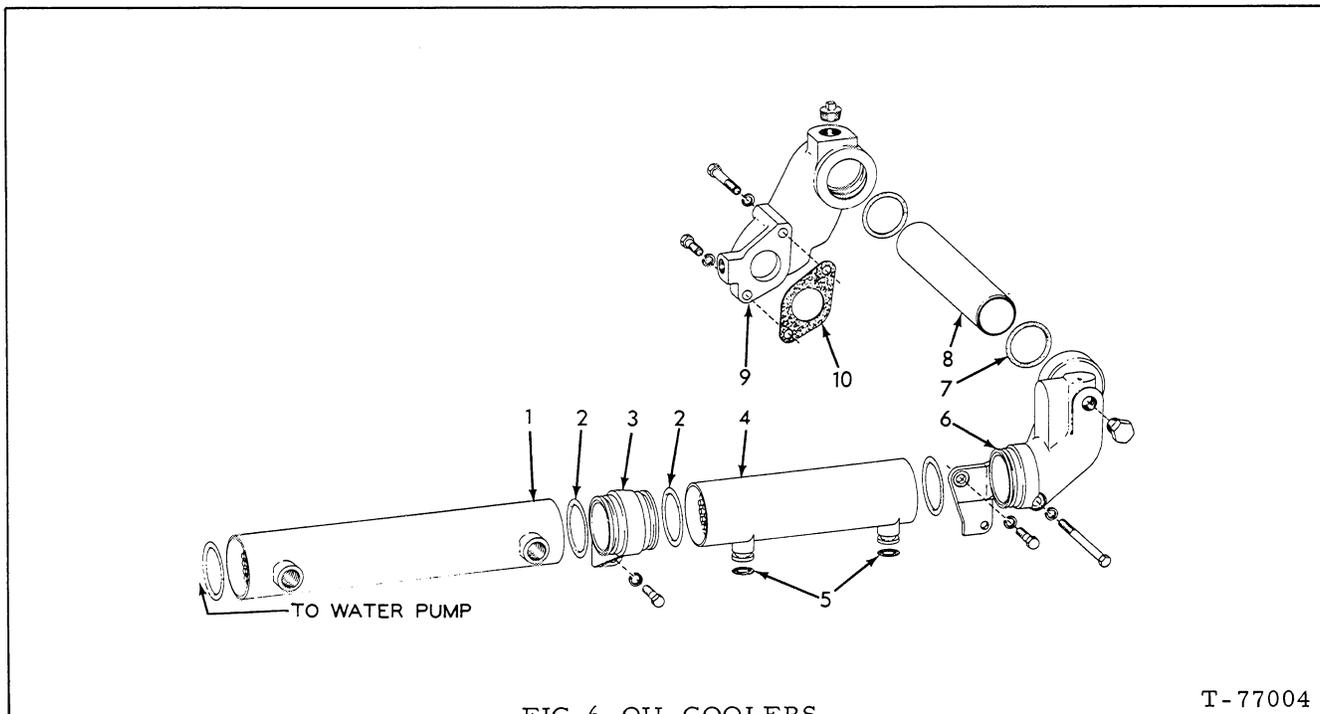

FIG. 6 OIL COOLERS
Located on the left side of the engine directly behind, and connected to the water pump is the transmission oil cooler, Fig. 6 (1). Directly behind the transmission oil cooler is the engine oil cooler (4). Each cooler consists of a bundle of corrosion resistant cooling tubes and a shell. The water pump circulates coolant through the tubes and the respective oil pumps circulate oil through the shell around the outside of the tubes, controlling oil temperature.
Close coolant filter inlet shut-off valve, Fig. 9 (3), and disconnect inlet tube (4) from elbow, Fig. 6 (9). Remove capscrews and lockwashers attaching elbow to cylinder block and remove elbow and cross-over tube (8) as an assembly. Remove gasket (10).
Remove engine lube oil filters from filter head. Remove capscrews, lockwasher, and plain washers attaching filter head and manifold to cylinder block. Pull down on filter head and manifold assembly to free it from engine oil cooler, Fig. 6 (4), and remove assembly from cylinder block.
Disconnect air compressor coolant supply line from elbow. Remove capscrews and lockwashers attaching elbow, Fig. 6 (6), to cylinder block and remove elbow and engine oil cooler (4) as an assembly. Separate elbow (6) from cooler (4).